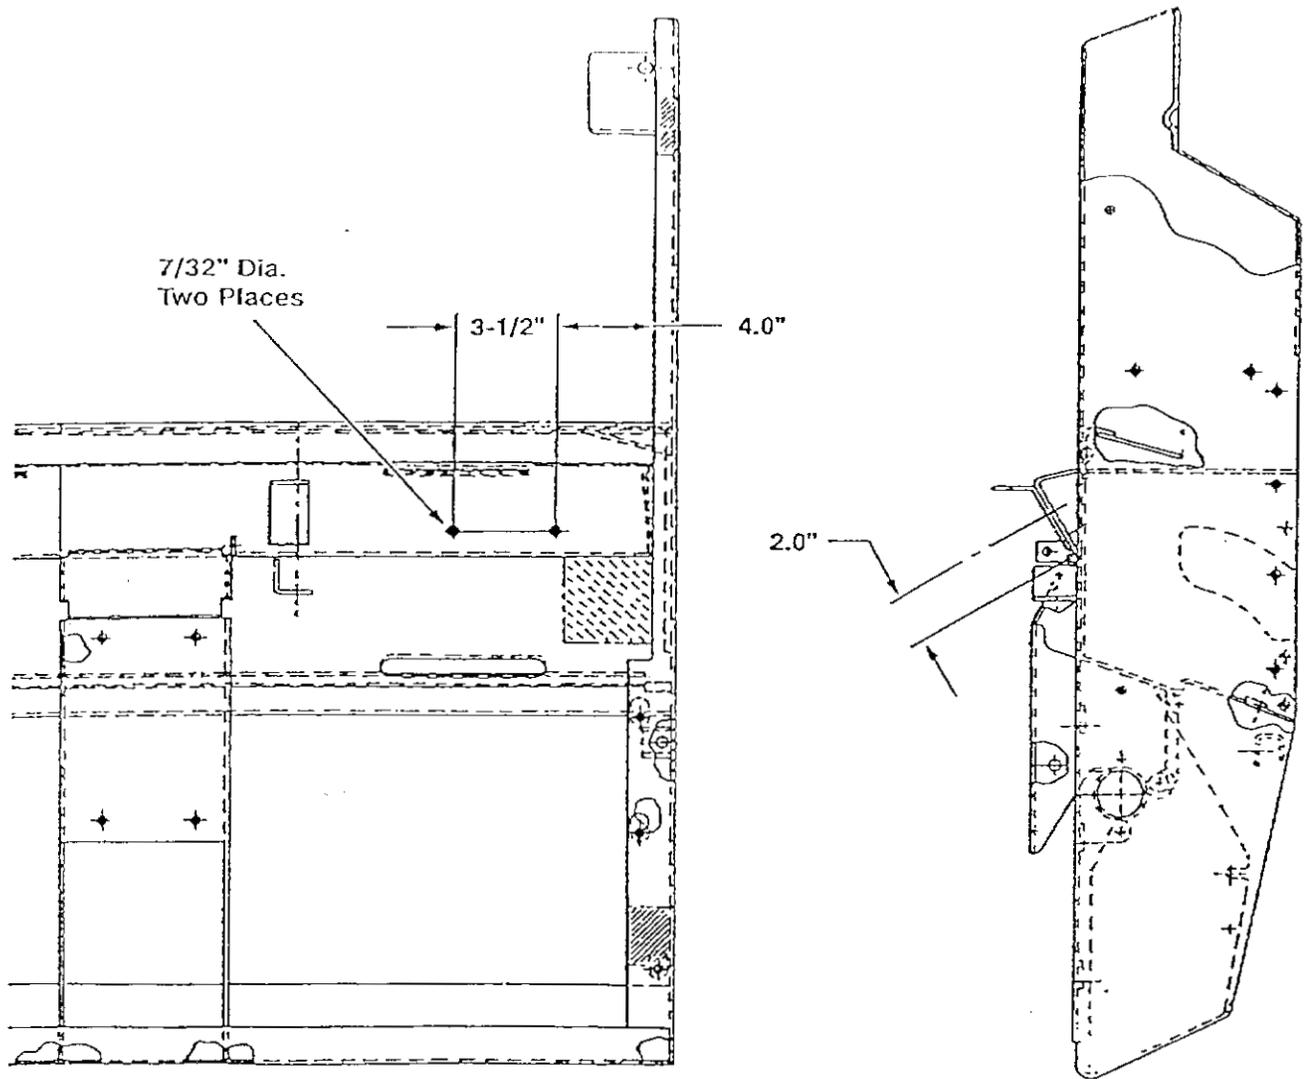

FIG. 2 – Machine Frame Hole Location
4. Drill two 7/32" dia. holes in machine frame. Refer to FIG. 2 for hole locations.
(Refer to Figures 2, 3